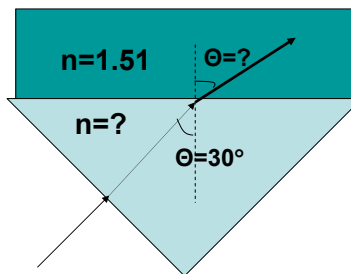

Figure 4: A block of glass is placed against the prism.
- (2) Now suppose a block of glass with index of refraction 1.51 is placed against the surface of the prism as shown in Figure 4.